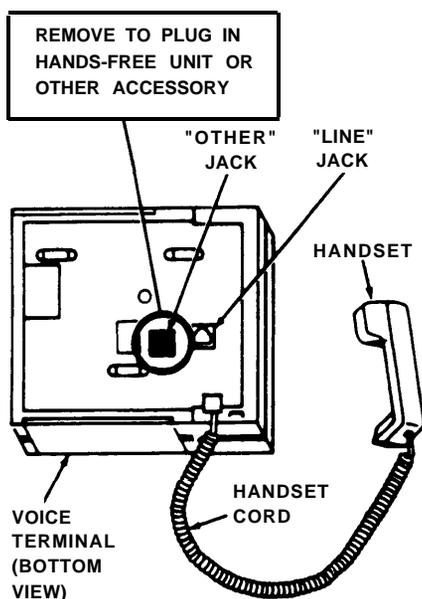

Figure 2
2. Turn voice terminal upside down and plug one end of handset cord into jack with the drawing of the handset beside it (see Figure 2).
4. Plug the loose end of the handset cord into the handset (see Figure 2).